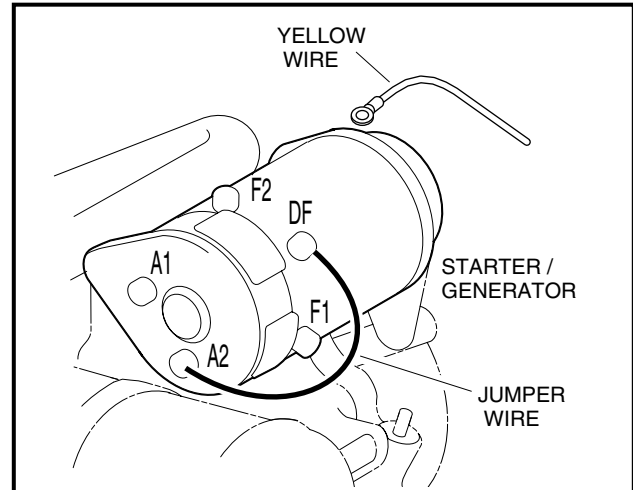

Figure 11-35 Jumper Wire Ground – DF to A2
3. Disconnect the yellow wire from the DF terminal on the starter/generator. Cover the connector on the yellow wire to make sure the yellow wire will not short to ground. Then, using a jumper wire, ground the DF terminal to the A2 terminal (**Figure 11-35, Page 11-31**).